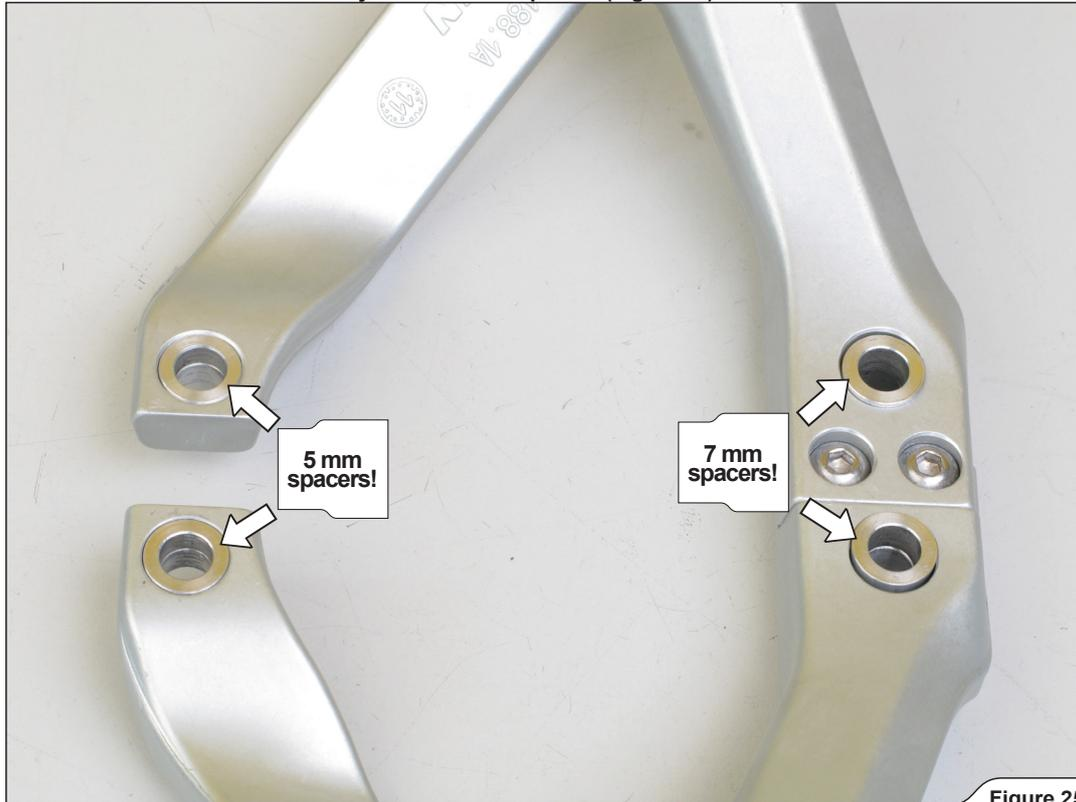

Figure 25
5. **For use of passengers foot rests only:** install the heat shield and passengers foot rests onto the sub-frame using spacers, bolts and washers from Akrapovič installation kit (**Figure 25, 26, 27**).
! **IMPORTANT:** make sure to correctly assemble the spacers (**Figure 25**)!